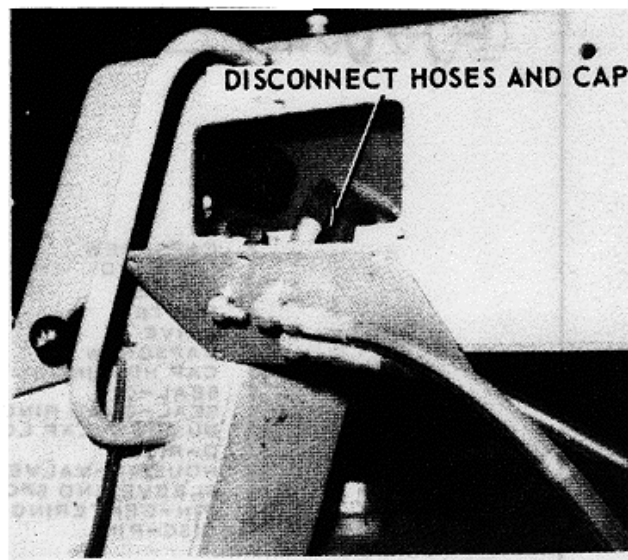

FIGURE 9-6.
d. Disconnect the two hydraulic hoses and the water spray hose. Plug or cap all hoses and fittings (see figure 9-6).